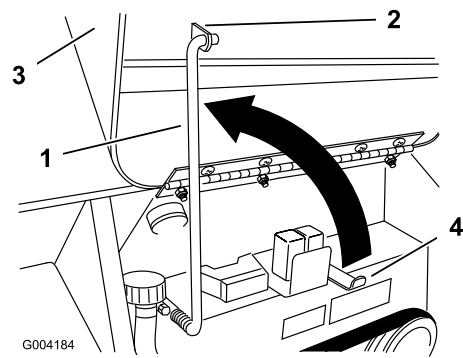

Figure 23
4. Swing the prop rod up and secure it in the bracket on the hood (Figure 23).